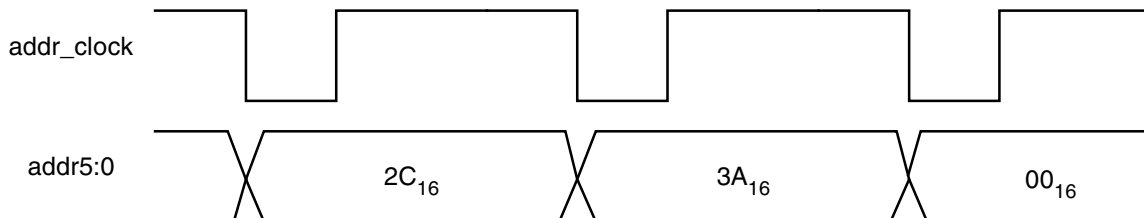

Figure 4b
b) Given that the timing diagram for the input signals $addr_clock$ and $addr5:0$ are as shown in Figure 4b, draw the timing diagram for the signals at X and Y. Label your timing diagram with the following four possible signal states: driven low (DL), driven high (DH), charged low (CL) and charged high (CH).